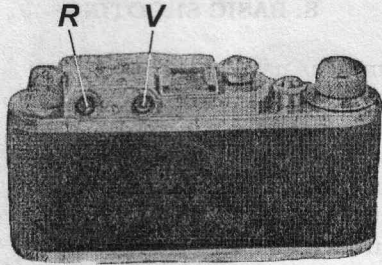

Fig. 12
5. Focus the lens, using the rangefinder by sighting through its eyepiece "R" (fig. 12)
6. Compose the shot by looking through the viewfinder eyepiece "V"(fig 12).
1. Hold the camera as shown in figs. 13 and 14. Point the camera towards the subject and sight it through the left eyepiece "R" (fig. 12).